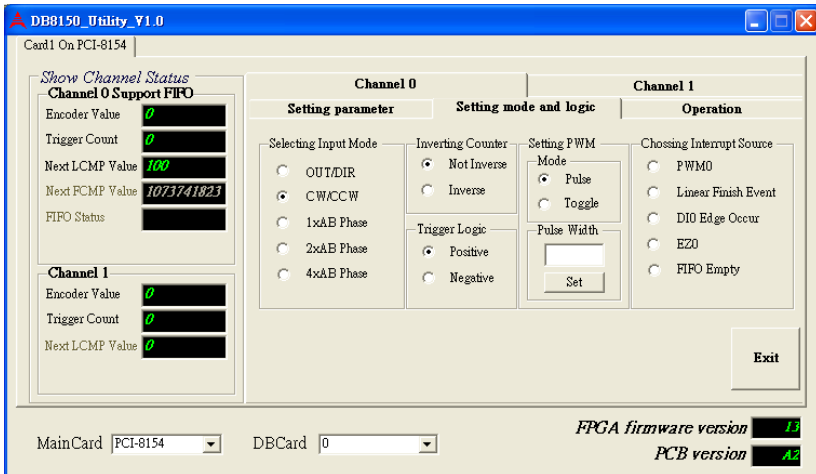
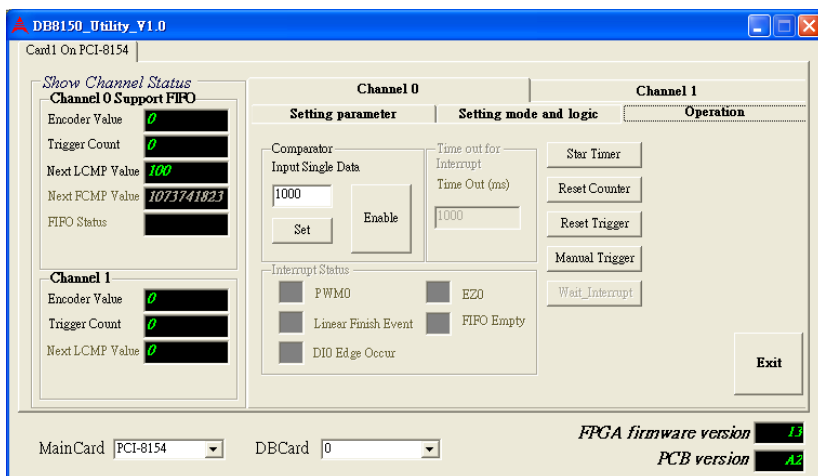

Figure 5-3: Setting Mode and Logic
Figure 5-4: Operation
5. Set the parameter for operation. Then, click the operation menu to switch to the Operation mode. See Figure 5-3 and Figure 5-4.